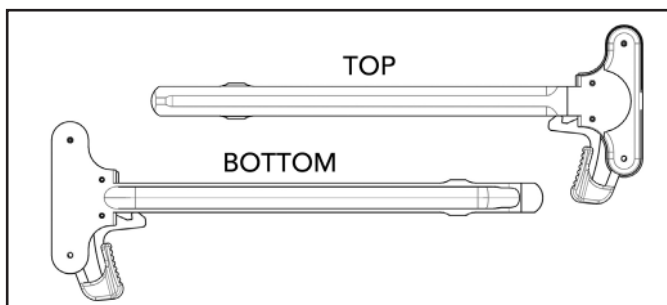

Fig. 84 – Lubrication of MR556A1 Charging Handle
5. Apply a medium coat of lubricant to the interior and exterior surfaces of the charging handle (Fig. 84).